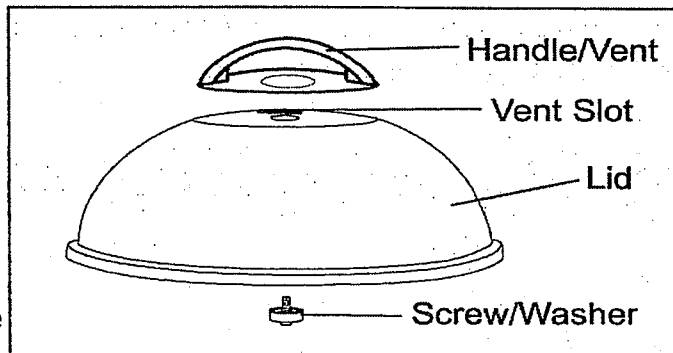

Figure 1
5. The Handle/Vent and mounting hardware, (Screw/Washer) are shipped in an inverted fashion, requiring minor assembly. Remove the Handle/Vent from the inside of the Lid by unscrewing the Screw/Washer. Remove all parts, then properly position the Handle/Vent on the top of the Lid. Make sure the Handle/Vent stop pin enters the Vent slot in the Lid. From the inside of the Lid, place the Screw/Washer through the hole in the Lid and Handle/Vent. Securely fasten with a Phillips head screw driver. See Figure 1.